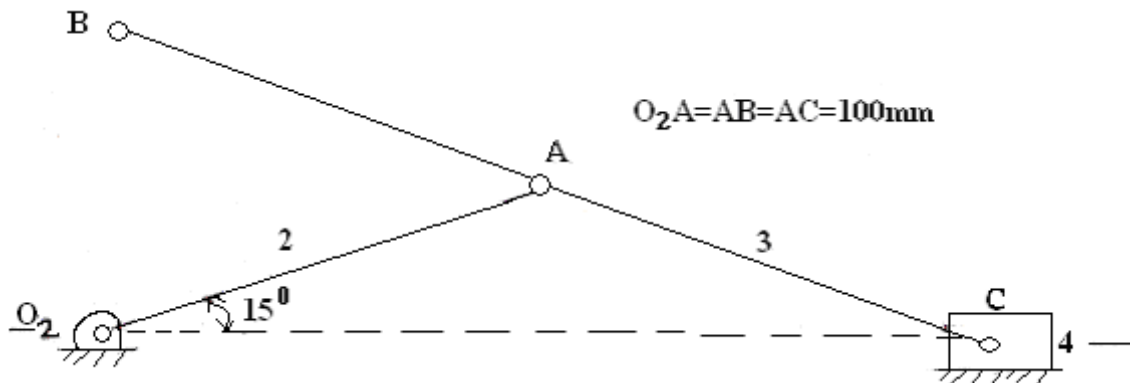

Figure 3
- For the straight-line mechanism shown in the figure3, $\omega_2 = 20 \text{ rad/s}$ cw and $\alpha_2 = 140 \text{ rad/s}^2$ cw. Determine the velocity and acceleration of point B and the angular acceleration of link 3.